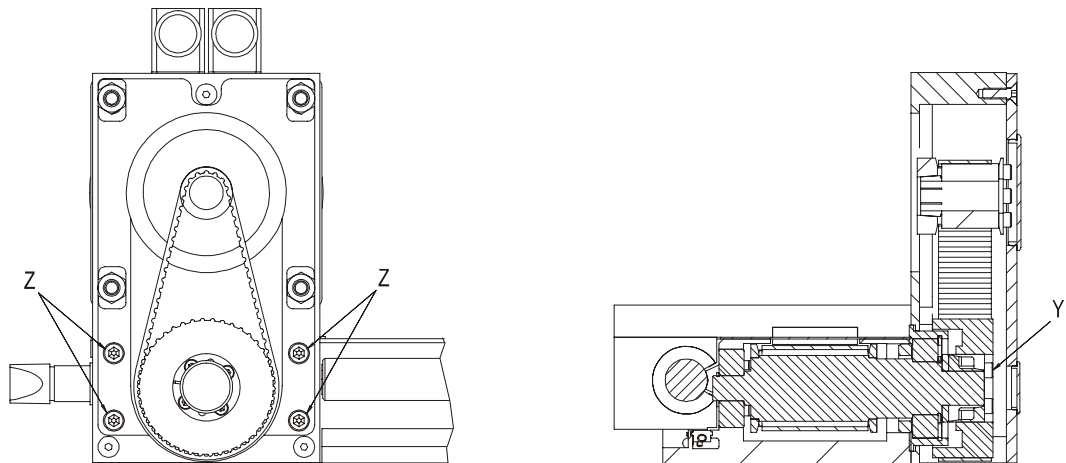

Figure 26: Open Drive Assembly of Module 142 and Cutaway View
- Remove the toothed pulley by undoing the screws of the shaft of the drive assembly (see Figure 26, Y).
- Fit the motor flange (see *Figure 26, Z*)
Push the clamping assembly all the way back. Ensure that the screws (Y) (see *Figure 26, page 33*) are evenly tightened in turn. Check that the toothed pulley turns freely